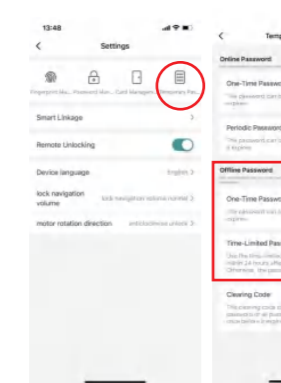

Figure P-5
(6) Temporary Password (offline)(Figure P-5)